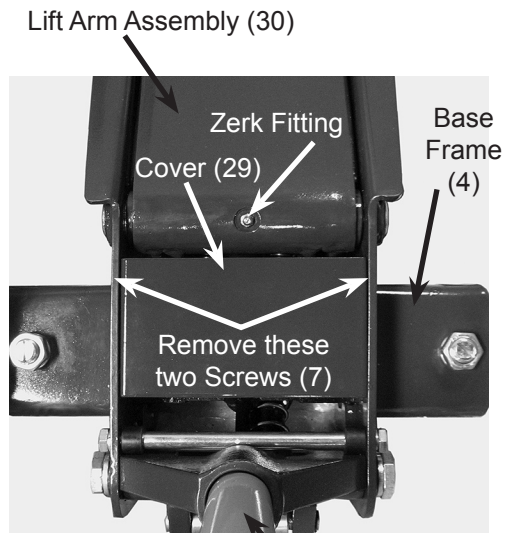

Figure 3
- a. Unthread the two screws indicated in Figure 3 above.